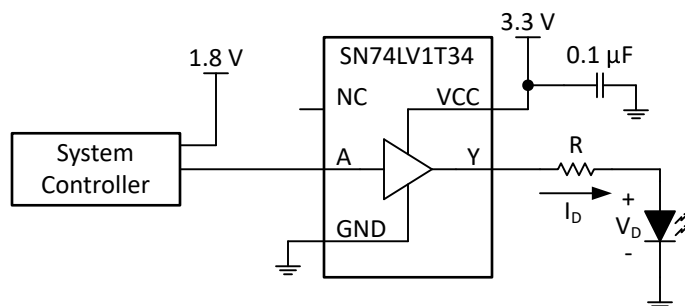

Figure 9-1. Typical Application Block Diagram
Figure 9-1 shows how the SN74LV1T34-Q1 is used to up-translate a 1.8-V signal to 3.3 V to drive an LED in this application. The SN74LV1T34-Q1 does not limit the output current, so an added output resistor is used to provide the appropriate current limiting. The resistor value (R) should be determined by the LED's forward voltage (V_D) and the desired forward current through the LED (I_D) using this equation: $R = (V_{CC} - V_D) / I_D$.